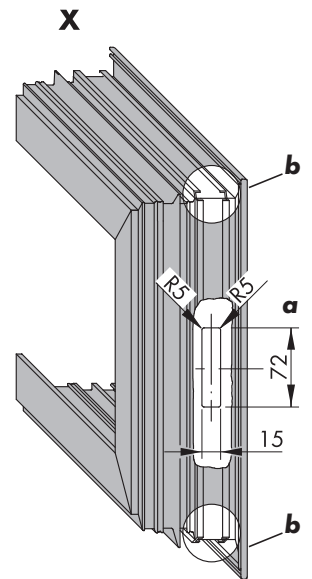

Figure 2
- b Open operating rod guiding groove.(Figure 2).